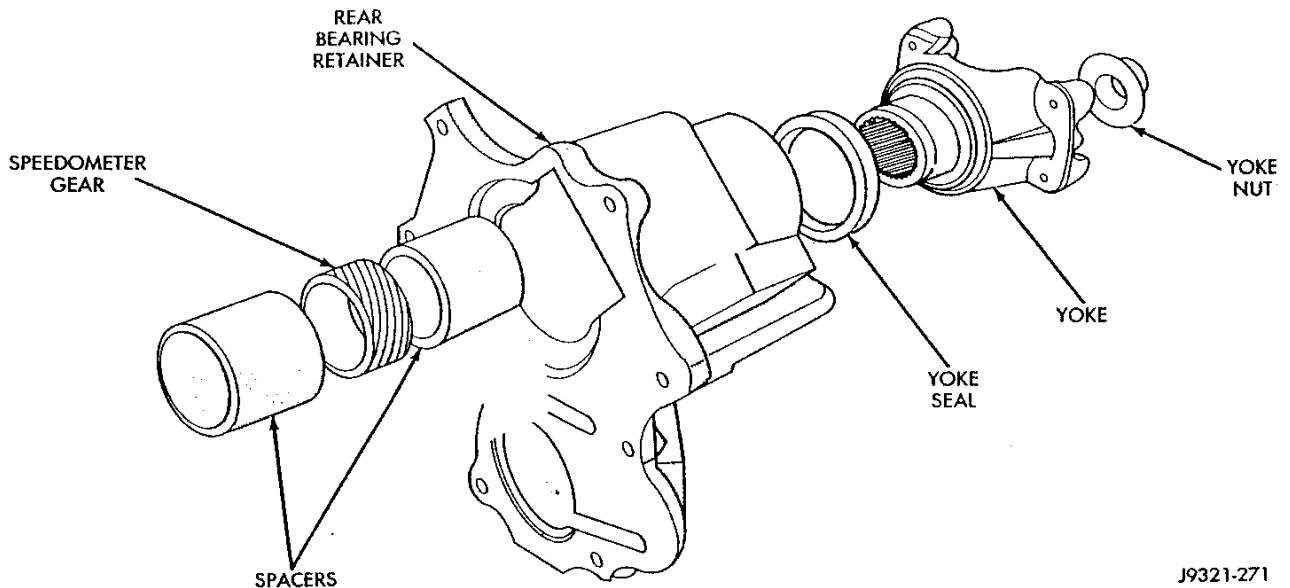

Fig. 70 Two Wheel Drive Rear Bearing Retainer And Speedometer Gear
(2) On 2-wheel drive transmissions, install new output shaft seal in retainer. Then install speedometer gear and spacers on output shaft (Fig. 70).
(3) Install rear retainer on gear case. Do not displace preload shims when installing retainer.
(4) Apply Mopar or Loctite thread locker to rear retainer bolts. Then install and tighten bolts to 22-30 N·m (16-22 ft. lbs.) torque.
(5) On 2-wheel drive transmissions, lube propeller shaft yoke seal surface with petroleum jelly or engine oil and install yoke. Then install and tighten new yoke nut to 380 N·m (280 ft. lbs.) torque.
(6) Apply coat of Mopar Perfect Seal, or similar sealer to new shift cover gasket. Then position gasket on gear case. (Although early production trans-